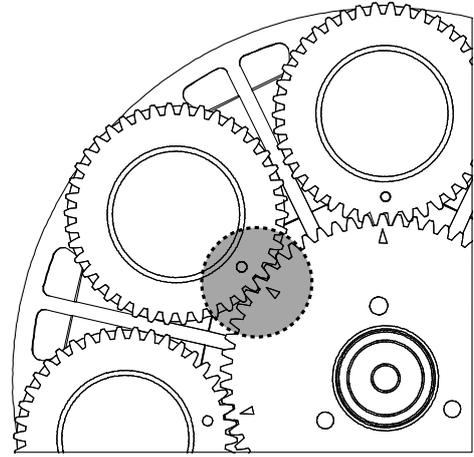

Figure 31: Alignment marks
4. Insert the gobo holder into the gobo wheel and align the index marks (figure 31). All index marks around the wheel have to be aligned to the same position.